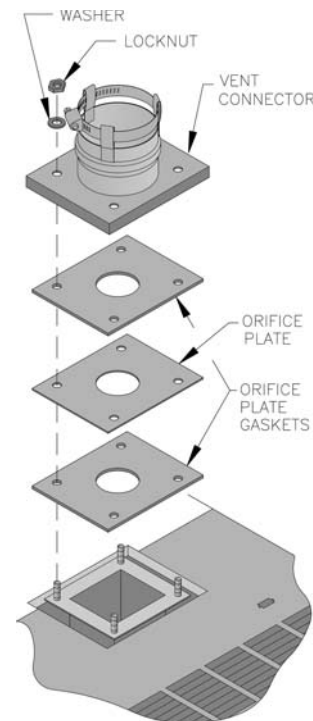

Figure 9: Vent Connector Installation
- Assemble orifice plate gaskets, orifice plate, and vent connector. See Figure 9.